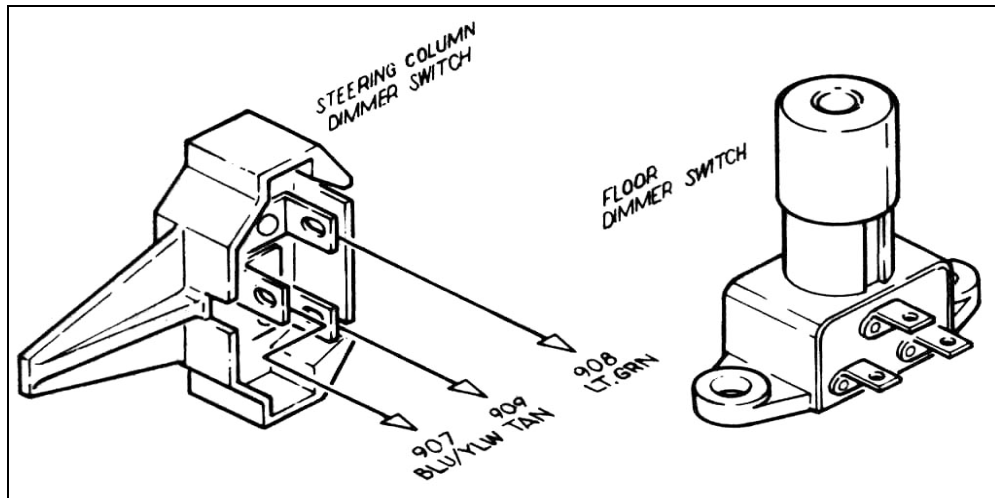

Figure 12-3 Dimmer Switches (Push Button Style – Painless Part #80150)
- 12.2** Connect the #'s 907,908 and 909 wires to the floor-mounted Dimmer Switch or column-mounted Dimmer Switch as shown in **Figure 12-3**